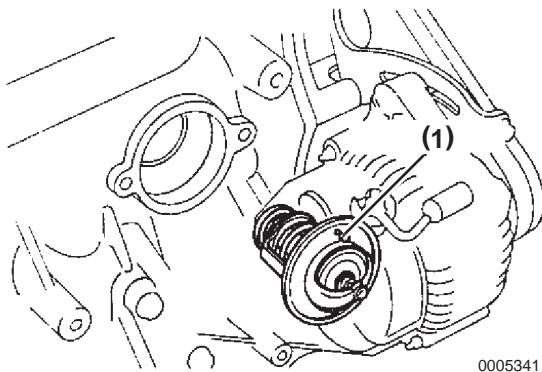

Figure 7-13
2. Install a new gasket to the thermostat (P/N 119773-49570), ensure the jiggle valve (**Figure 7-13, (1)**) faces upwards.